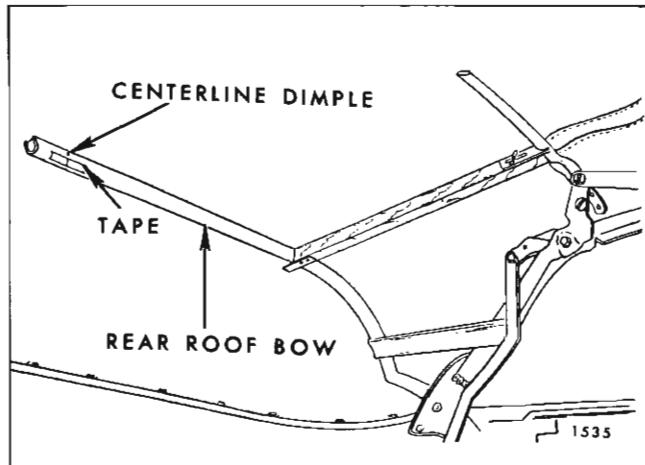

Fig. 1-I-20—Marking Rear Roof Bow
23. Fold new top material in half so that inner lining of top material is exposed (Fig. 1I19). Install a 6" piece of tape on inner surface at centerline fold of new top material (Fig. 1I19). Using a pencil, mark the approximate centerline of new top material along entire length of tape.